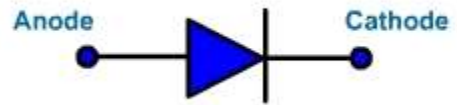

Fig.4
The symbol of diode is shown in fig. 4. The terminal connected to p-layer is called anode (A) and the terminal connected to n-layer is called cathode (K)